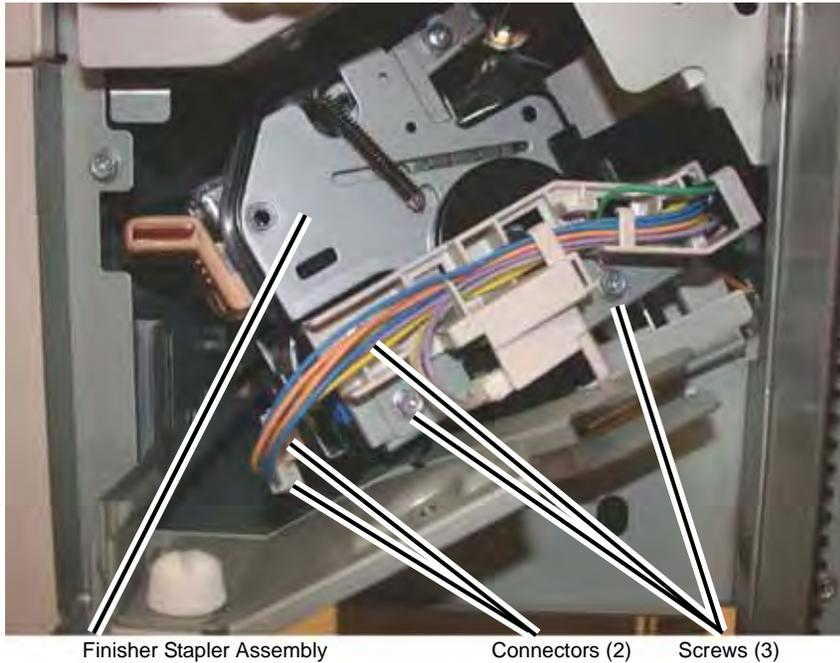

Figure 2 Removing the Finisher Stapler Assembly
5. Remove the Finisher Stapler Assembly (Figure 2).